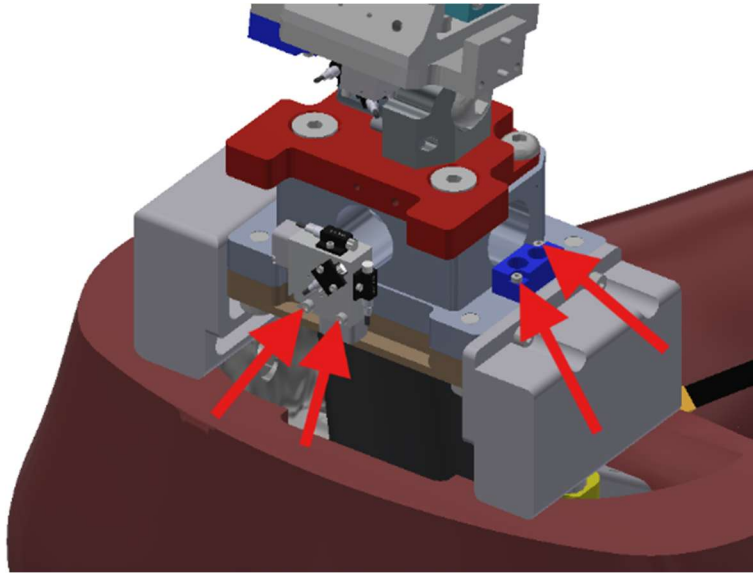

Figure 5-42. Install the T12 Tilt Sensor (SA572-S44) and the 7264C/ARS-1500 Mount (474-3067) to the Thoracic Spine Load Cell (SA572-S107)
- 5.3.5 Install the T12 Tilt Sensor (SA572-S44) to the Thoracic Spine Load Cell (SA572-S107) with two M2 X 0.4 X 10 LG. SHCS (Figure 5-42).
- 5.3.6 Install the 7264C/ARS-1500 Mount (474-3067) to the rear of the spine assembly (474-3200-A) with two M2.5 X 0.45 X 16 LG. SHCS (Figure 5-42).